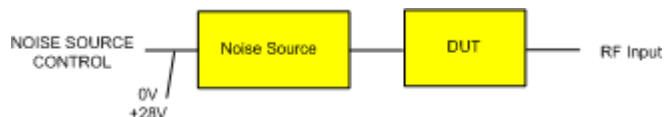

Fig. 4-2: Test setup for the main measurement
1. Insert the DUT (in this example, the amplifier) into the test setup between the noise source and RF input of the analyzer (see figure 4-2).